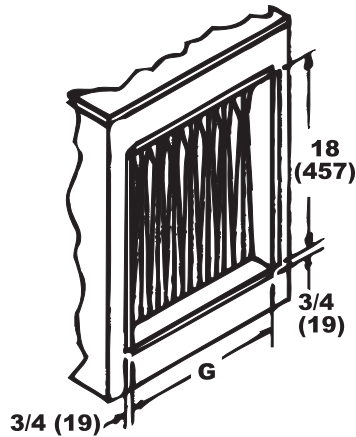

Figure 8. Ductwork Connection Dimensions (Refer to Table 7)
- **Connection dimensions:** connection dimensions (inches (mm)) are shown in Figure 8 and listed in Table 7.
*See Figure 8.